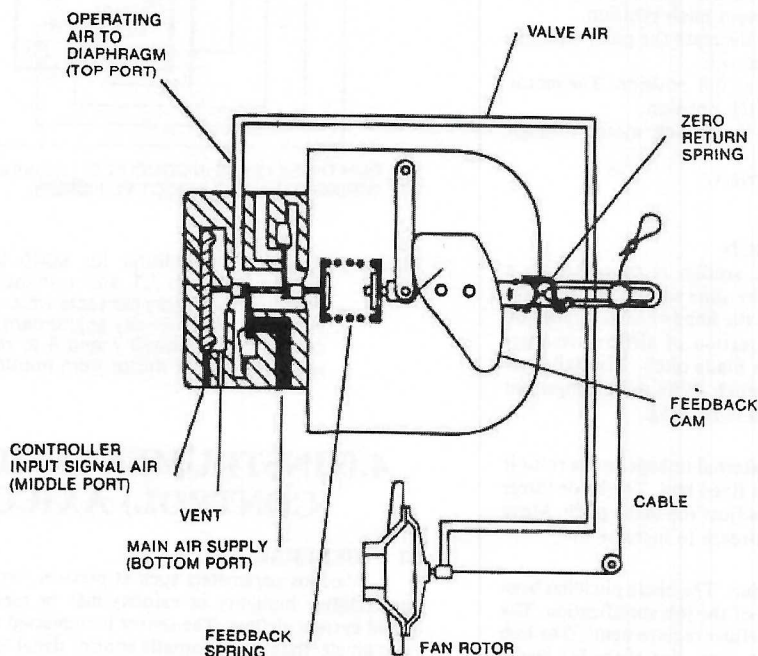

FIG. 2 SCHEMATIC OF PILOT POSITIONER AND FAN DIRECT ACTING
4. Adjust the pressure to the diaphragm to move the cable midway between the two reference marks. Measure carefully and maintain this position. Remove the side cover plate on the positioner. Grasp the positioner arm and move it to align the line engraved on the cam with the center line of the cam roller. (See Figure 2) Tighten the cable clamp.